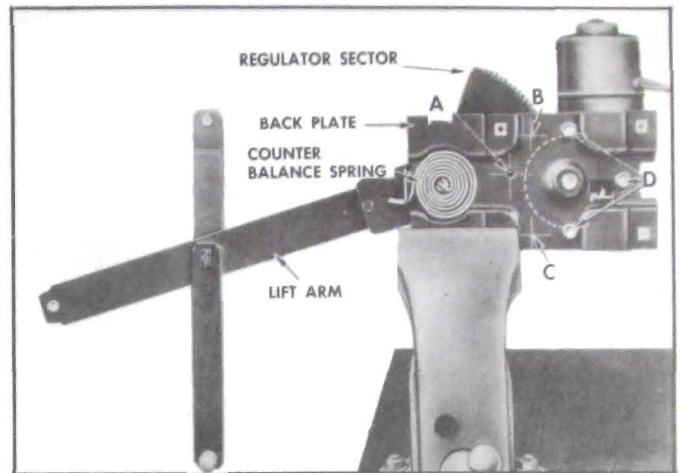

Figure 13-213—Electric Window Regulator
The electric motor assembly which powers the door window regulator is a reversible type motor with a built-in circuit breaker and a self-locking gear drive. The motor is secured to the regulator assembly with three screws. Operating principles of the regulator are such that when the motor is actuated, the motor pinion gear, which is meshed with the rack portion of the regulator sector, rotates, providing the up and down movement of the regulator lift arm. The illustration shows the door window regulator removed from the body. (Figure 13-213.)
2. Drill $\frac{1}{4}$ " hole through backplate and sector within area at "A", as indicated in figure 13-213.
4. Remove the three attaching bolts as shown in figure 13-213 and remove motor assembly from regulator. NOTE: *Clean steel*